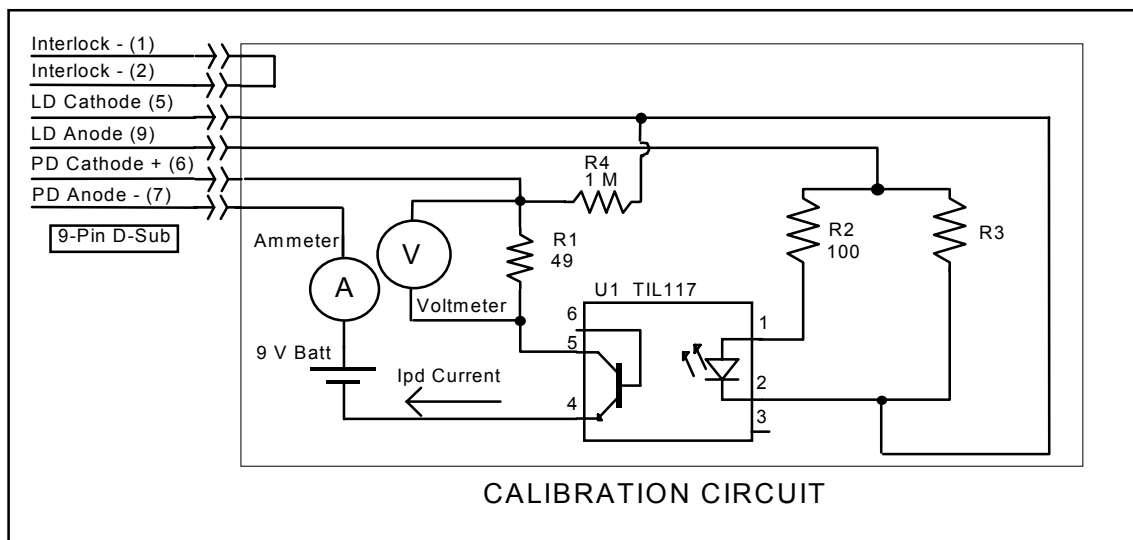

Figure 5.1 I_{PD} Calibration Circuit
- a. Select the CSM-39100 to be calibrated by pressing the appropriate (ADJUST) switch. With the LASER output off, connect a calibrated ammeter to the PD Anode output of the CSM-39100, and connect the circuit of Figure 5.1 to the LASER and PD outputs.
- a. With the LASER output off, connect a calibrated ammeter to the PD Anode output of the CSM-39100, and connect the circuit of Figure 5.1 to the LASER and PD outputs.
If a calibrated ammeter (with 0.1 μA resolution) is not available, place a calibrated DMM (with 0.1 mV resolution) to measure the voltage across the resistor, R1, as shown in Figure 5.1. Calculate the current in the following steps by using Ohm's Law: